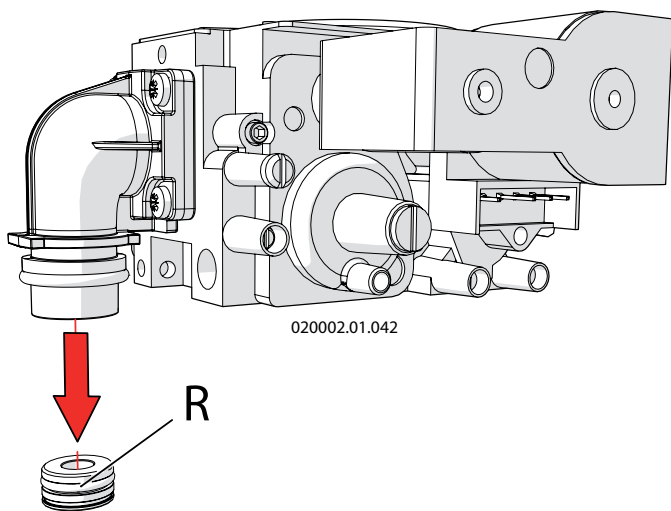

Figure 6.4 - Replacing the gas nozzle
- 18 - replace the gas nozzle "R" (see figure 6.4) with an appropriate one according to that stated in figure 6.7 under "Diameter of the gas nozzle";